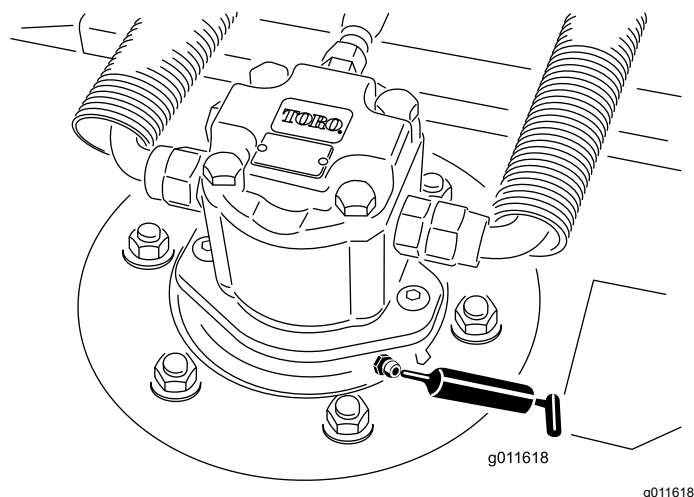

Figure 10
- Cutting unit spindle-shaft bearings (2 per cutting unit)—Figure 10